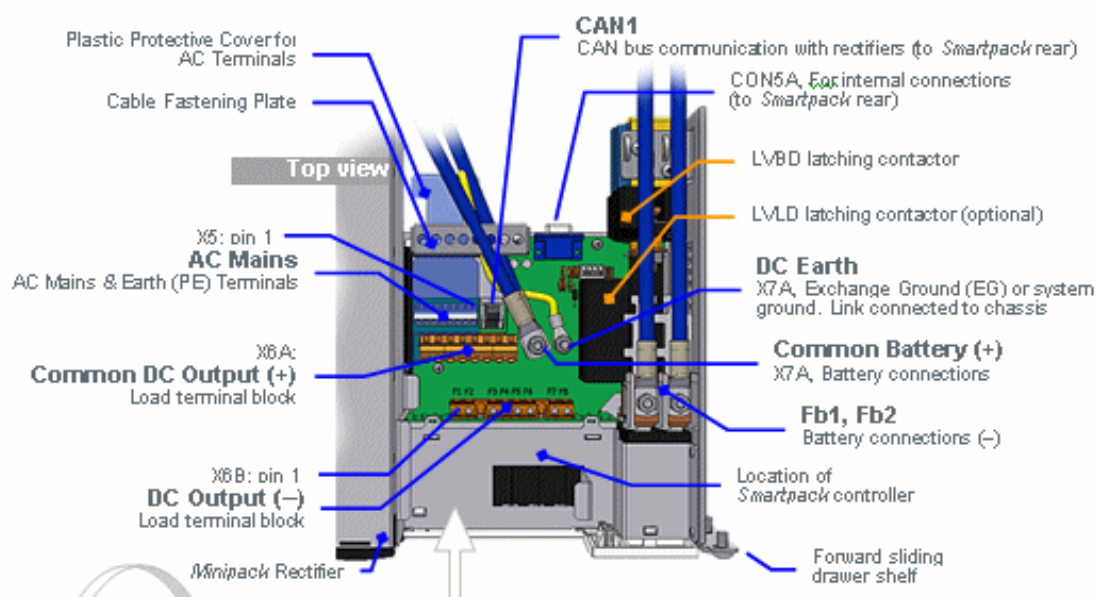

Figure 6: Top View of Outdoor Cabinet
- 2 Connect the three ends of the ASN power cable to power shelf as follows (see Figure 6):